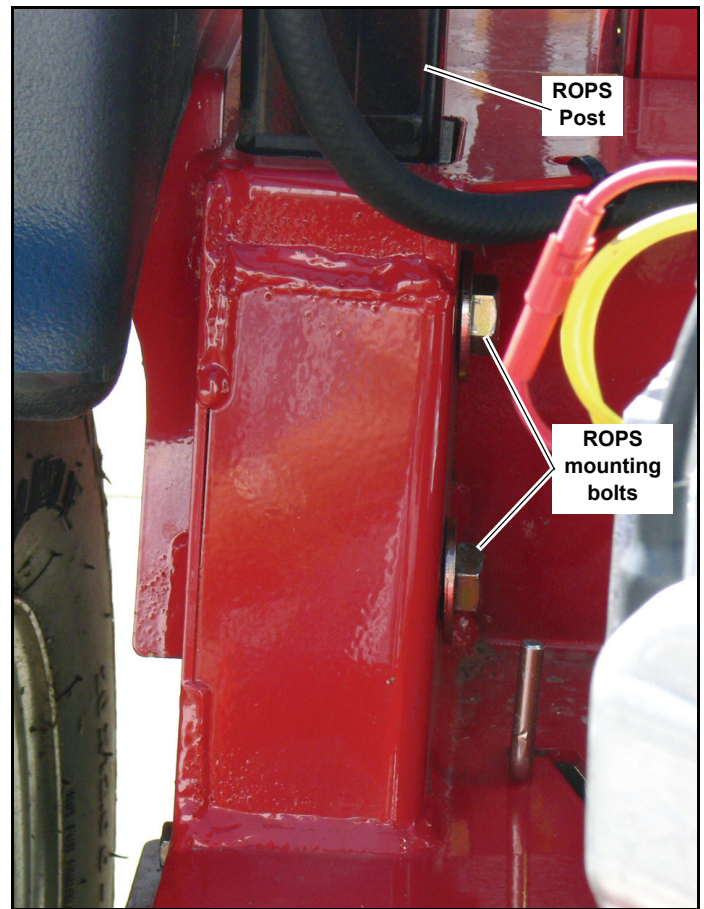

Fig. 3-7
NOTE: Inspect the ROPS after the first 20 hours of operation. Following the initial inspection, check the ROPS after every 500 hours of operation or every six months, whichever comes first. Fig. 3-7
1. Check the torque of the ROPS mounting bolts. Tighten the bolts to the correct torques as shown below if necessary. Fig. 3-7